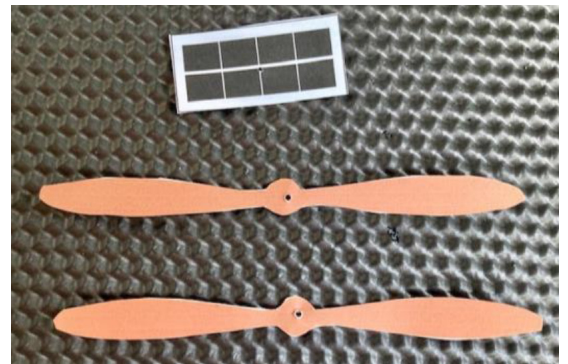

Figure 3. Cut out one set of parts for your helicopter.
- Print out the final page of this document on cardstock or other stiff paper. As shown in Figure 3, you will need to cut out one set of parts (a solar panel and two rotor blades) for each helicopter you are making. NOTE: The final page contains two sets in case you are making multiple models - you only need one set per model.